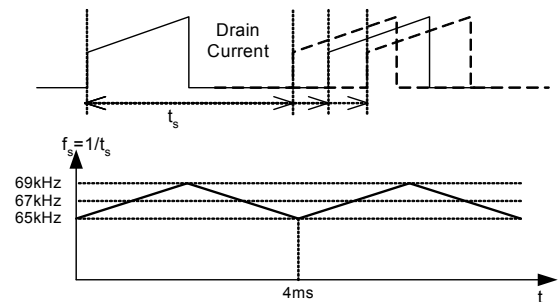

Figure 10. Frequency Modulation Waveform
**7. Frequency Modulation :** Modulating the switching frequency of a switched power supply can reduce EMI. Frequency modulation can reduce EMI by spreading the energy over a wider frequency range than the bandwidth measured by the EMI test equipment. The amount of EMI reduction is directly related to the depth of the reference frequency. As can be seen in Figure 10, the frequency changes from 65KHz to 69KHz in 4ms for the FSDM0365RN (48.5KHz to 51.5KHz for FSDL0365RN). Frequency modulation allows the use of a cost effective inductor instead of an AC input mode choke to satisfy the requirements of world wide EMI limits.